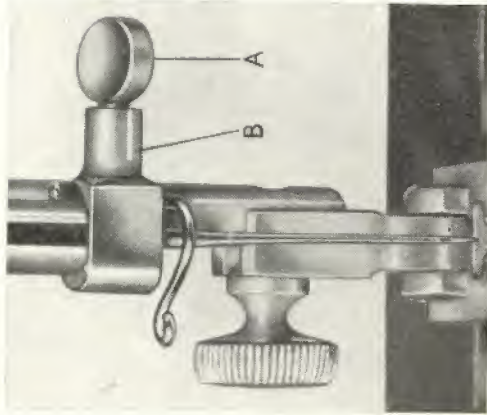

Fig. 3.
Loosen the needle screw (A, Fig. 3). Insert the needle in the clamp (B) and push it up as far as it will go. See that the flat side of the needle is turned away from you. Tighten the screw securely, and check again to make sure that the needle is correctly inserted. The long groove over the needle's eye should be facing you.